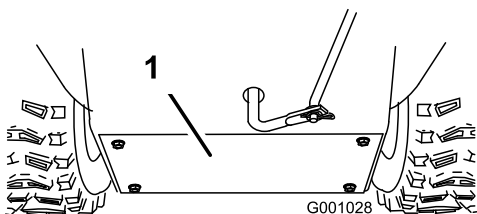

Figure 53
- Remove the back cover (Figure 53).